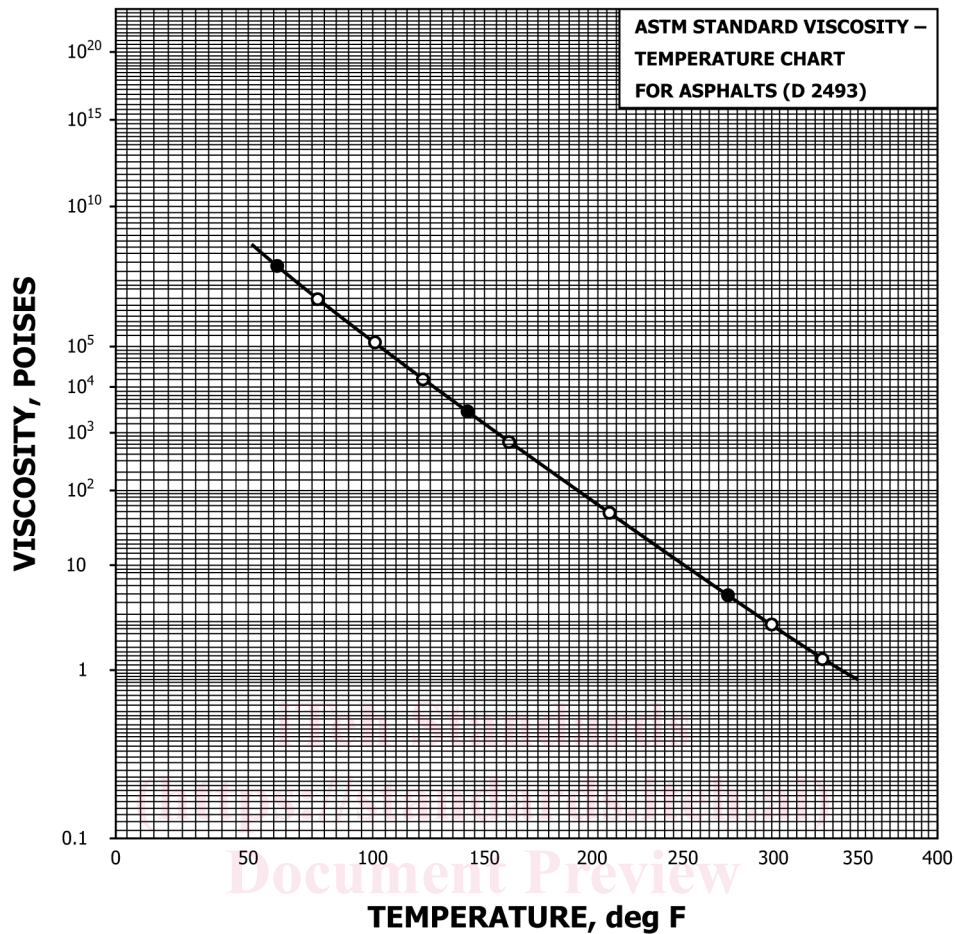

FIG. 1 Viscosity-Temperature Chart for Asphalts Asphalt Binders on Which a Typical Experimental Curve Has Been Plotted
4.1 For Fig. 1, the chart coordinates are logarithm of the logarithm of the viscosity in mPa·S as the ordinate, and logarithm of the absolute temperature in degrees Kelvin (degrees C + 273.2) as the abscissa. However, the viscosity in Pa·S and the temperature in degrees Celsius is shown in the chart for convenience.
NOTE 2—Some asphalts have viscosity-temperature relationships too complex to be represented by only three points, as shown in Fig. 1. In this case determine the viscosity at sufficient temperatures to produce a curve adequate for the purpose intended.
4.1 Fig. 1 shows an example viscosity-temperature chart. For Fig. 1, the chart coordinates are logarithm of the logarithm of the viscosity in centipoise as the ordinate, and logarithm of the absolute temperature in degrees Rankine (degrees F + 459.7) as the abscissa. However, the viscosity in poise and the temperature in degrees Fahrenheit are shown in the chart for convenience.